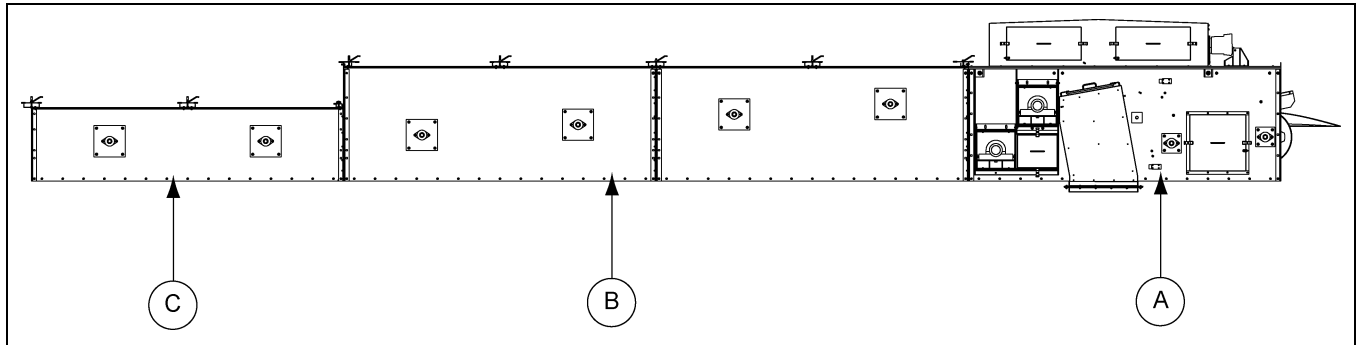

Figure 3D
1. Position the tripper assembly (A) in line with the trunking section (B). *(See Figure 3D.)*